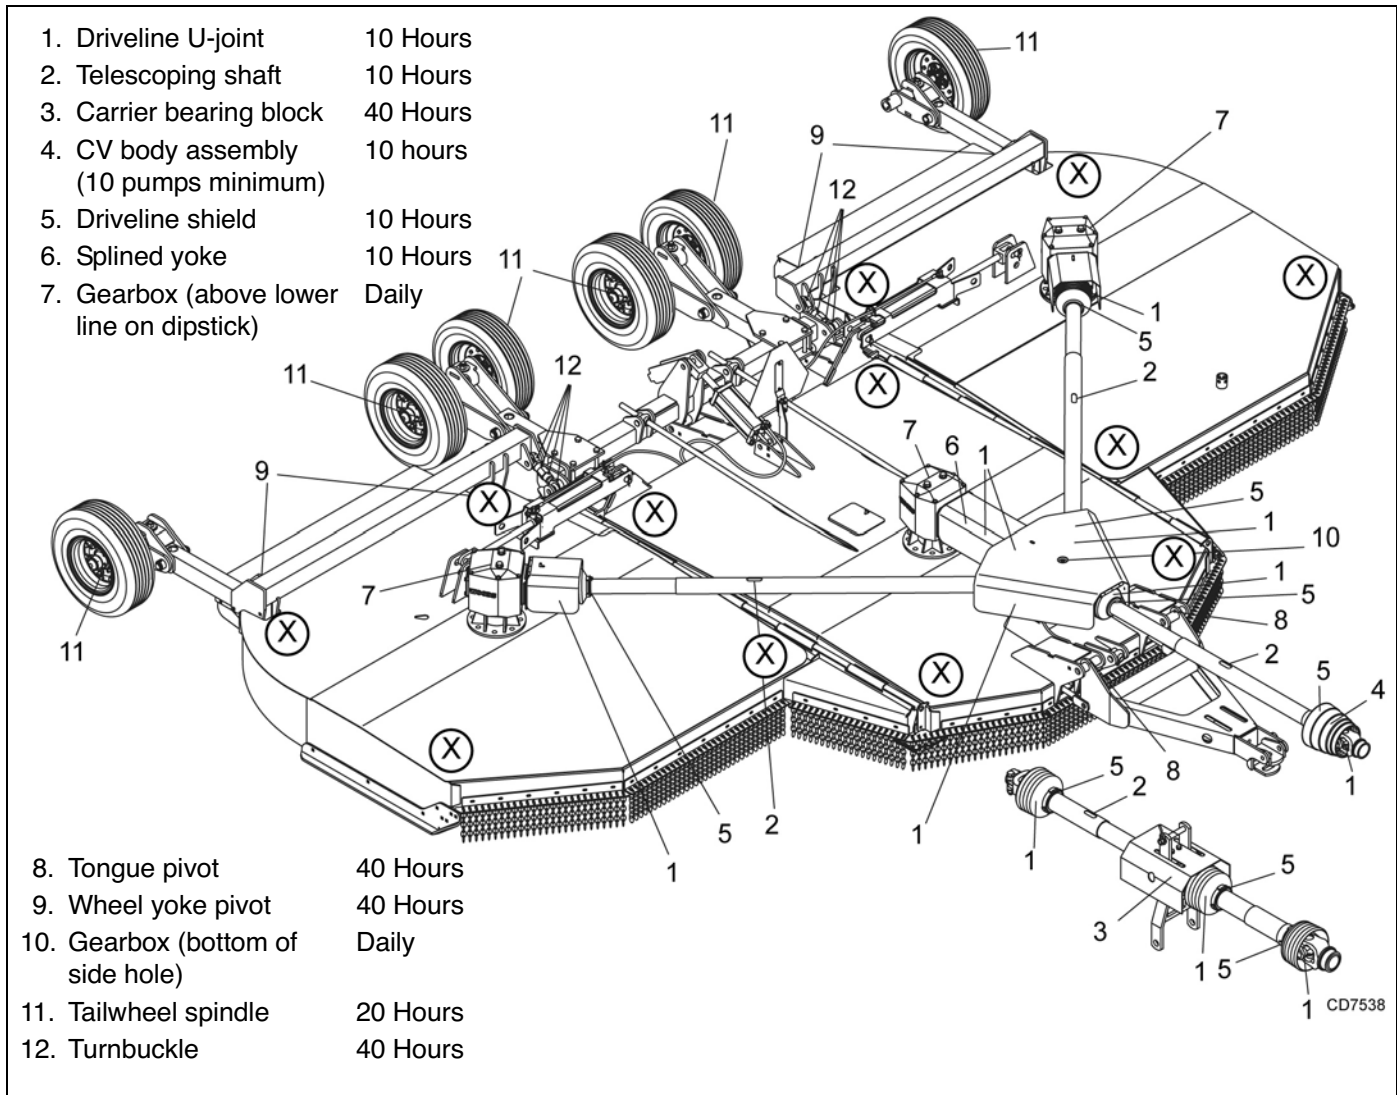

Figure 4. Jackstand Placement and Lubrication Points
1. Jackstands with a load rating of 1000 lbs. or more are the only approved blocking device for this cutter. Install jackstands (shown by Xs in Figure 4) under the cutter before working underneath unit.
See Figure 4 for lubrication points and frequency or lubrication based on normal operating conditions. Severe or unusual conditions may require more frequent lubrication.
2. Raise cutter and block securely (see Figure 4).
3. Align crossbar (8) with blade access hole in the cutter frame. Remove cap screw (50), blade pin